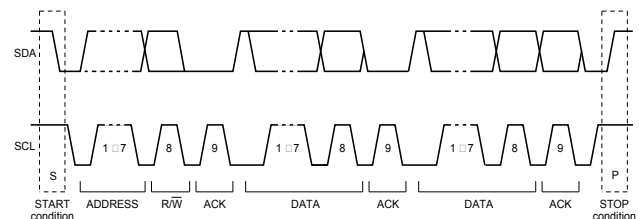

FIGURE 8. A Complete Data Transfer
Data transfers follow the format shown in Fig. 8. After the start condition (S), a slave address is sent. This address is 7 bits long followed by an 8th bit, which is a data direction bit (R/W). A ‘0’ indicates a transmission (write); a ‘1’ indicates a request for data (read). A data transfer is terminated always by a stop condition (P) generated by the master. However, if a master still wishes to communicate on the bus, it can generate a repeated start condition (Sr) and address another slave without first generating a stop condition.